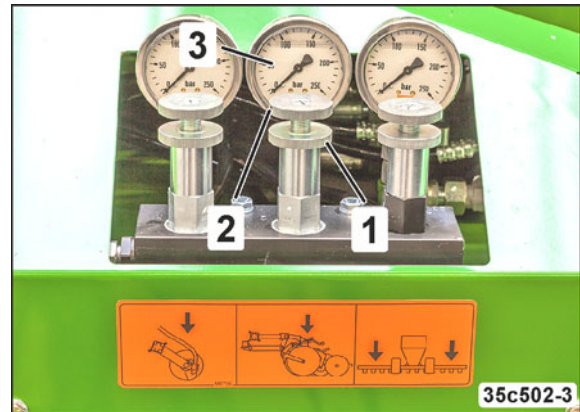

Fig. 177
1. Unscrew the lock nut (Fig. 177/1).
2. Adjust the coulter pressure by turning the valve screw (Fig. 177/2).
- Read of the pressure at the pressure gauge (Fig. 177/3).
The pressure displayed on the pressure gauge (Fig. 177/1) changes until the fan (singling) runs at a constant speed.